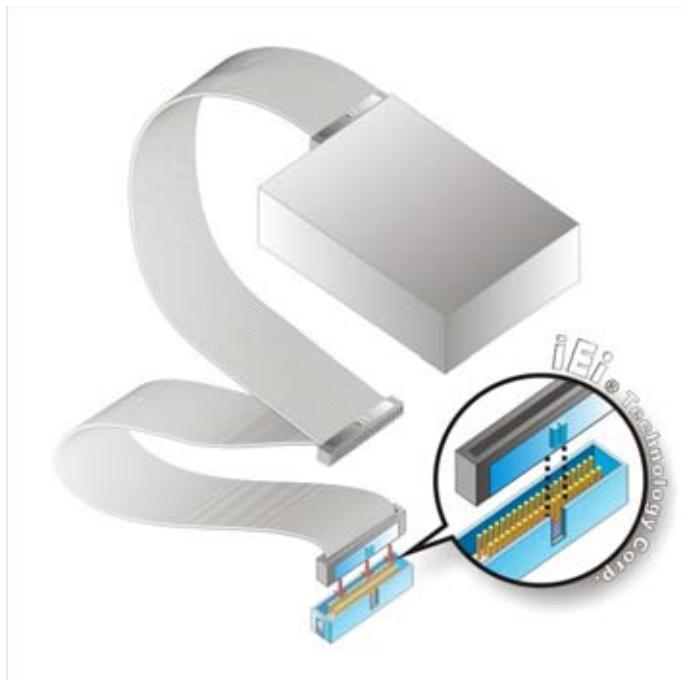

Figure 5-5: IDE Cable Connection
Step 5: Insert the connector. Connect the IDE cable connector to the onboard connector. See Figure 5-5. A key on the front of the cable connector ensures it can only be inserted in one direction.